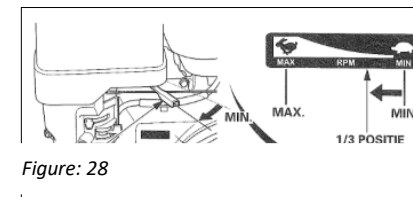
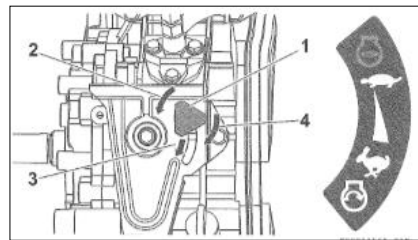

Figure: 28
Figure: 32
- Set the throttle control to 1/3 open (see figure 28).
- Set the throttle knob to the correct position by loosening the black knob (twist anticlockwise) and sliding it down. When it is in the correct position, turn it clockwise again to secure it in place (see figure 32).
- Increase the speed of the Honda engine with the throttle lever (see figure 28). Increase the speed of the Yanmar engine by loosening the knob in figure 32, sliding it in the direction of the hare pictogram and tightening it again.
- Stop the Honda engine by setting the throttle lever to the MIN position (see figure 28) and pressing the  button on the transmitter.
- Stop the Yanmar engine by loosening the throttle knob, sliding it to the stop position,  tightening it again (see figure  32) and pressing the button on the transmitter.